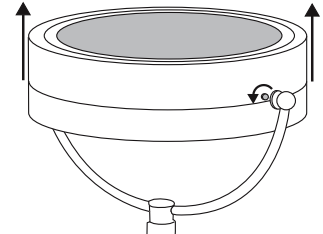

Figure 1
1. Remove screws from opposite sides of the mirror housing near the rotating hinges (Fig. 1).